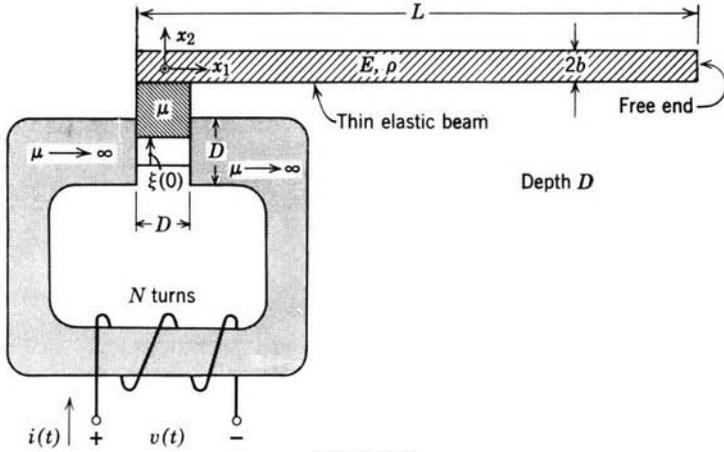

Fig. 11P.8
11.8. The electromechanical system shown in Fig. 11P.8 consists of a long thin elastic beam attached to the plunger of an electromagnet. The plunger has permeability μ and is free to slide between the faces of the electromagnet. Treat the plunger as a rigid body with mass M . Assume that $D \ll L$. The coil on the electromagnet is now excited with a current $i(t) = I_0 + i_1 \cos \omega t$, where $|i_1| \ll I_0$. You may assume that an externally applied force F_0 holds the plunger in equilibrium against the current I_0 . Also in equilibrium, the displacement of the beam $\xi(0) = 0$.